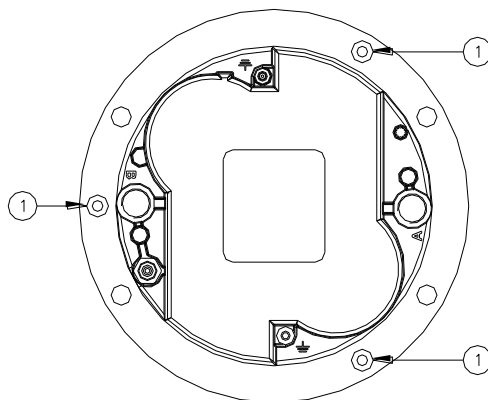
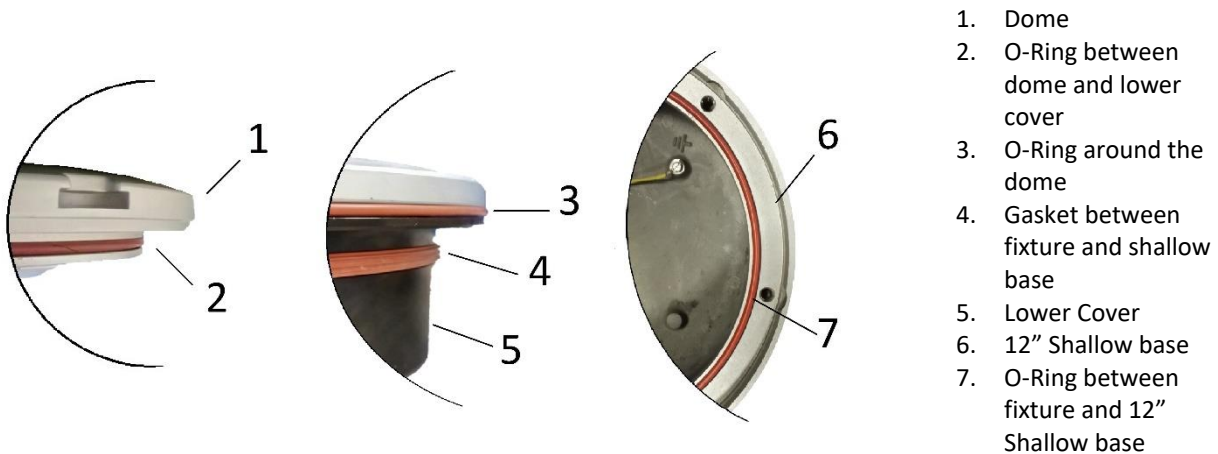

Figure 19 - Lower Cover Fixing Screws
Figure 21 – Fixture Gaskets
- Open the fixture by unscrewing the three locking screws TORX M5x10 (Figure 19 - n°1).
- three locking screws TORX M5x10 (Figure 19 - n°1);
- O-Rings between dome and lower cover (Figure 21 – n°2);
Verify the correct position of O-Ring between dome and lower cover (Figure 21 – n°2); mount the lower cover on the dome and fasten it by means the three screws TORX M5x10 (Figure 19 - n°1). One drop of anaerobic adhesive lower type (e.g. LOXEAL 24-18) should be applied to the screws before installation; tightening torque is 2.5 Nm.
- O-Ring around the dome (Figure 21 – n°3);
- Gasket between fixture and 8" shallow base (Figure 21 – n°4);
- O-Ring between fixture and 12" shallow base (Figure 21 – n°7);